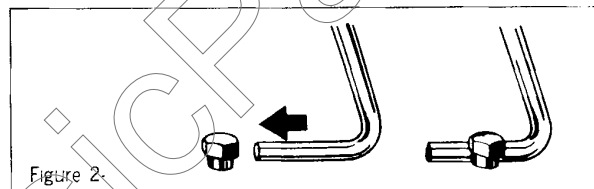

Figure 2-
4. Install enclosed Music Rack as shown in figure 2.